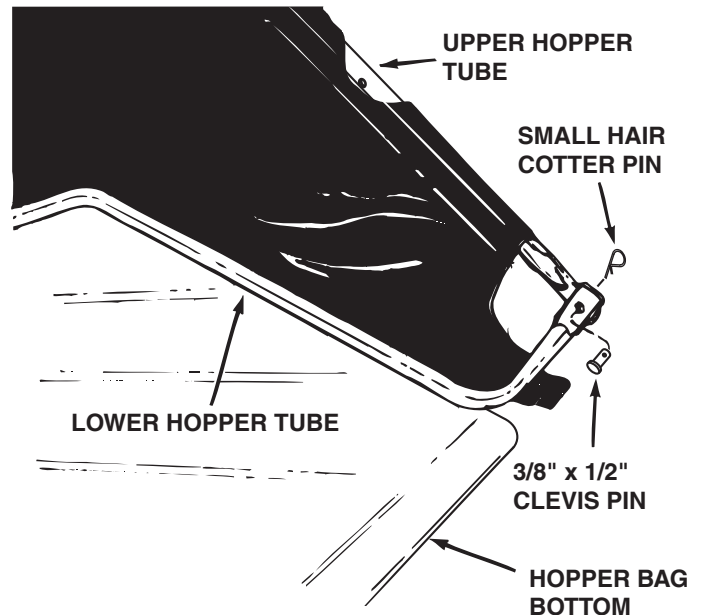

FIGURE 16
5. Place the assembled lower hopper tubes into the bottom of the hopper bag and then slide the tubes to the back of the bag. See figure 16.
6. Attach the ends of the lower hopper tubes to the **inside** of the upper hopper tubes using two  $\frac{3}{8}$ " x  $\frac{1}{2}$ " clevis pins inserted from the inside, and two small hair cotter pins. See figure 16.